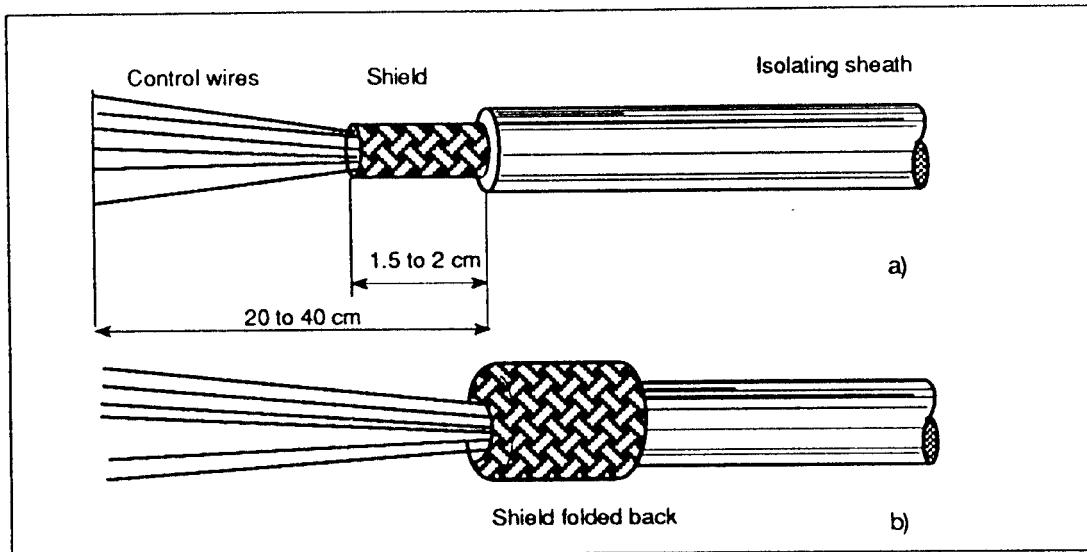

Figure 3-10 Control cable stripping
- Strip the shielded cable as shown in figure 3-10,a.
- Fold back the shield on the isolating sheath (figure 3-10,b)